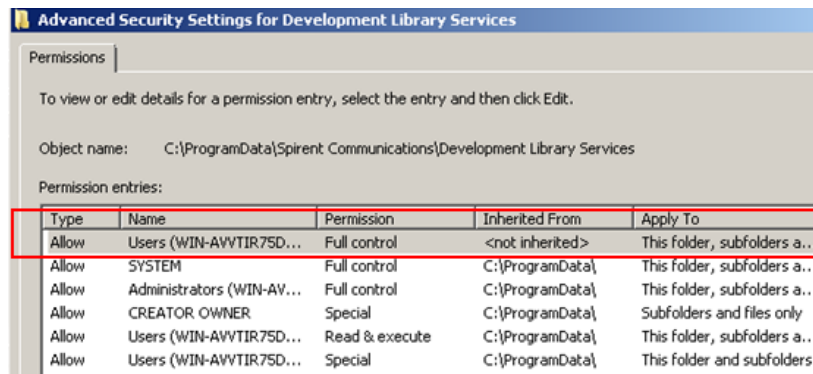

Figure 2-21: Verifying Permissions Setting
9. Verify that you have a new permission entry for *Users that allows Full Control*, as shown in Figure 2-21. Click **Apply** and **OK** save the settings and exit the window.